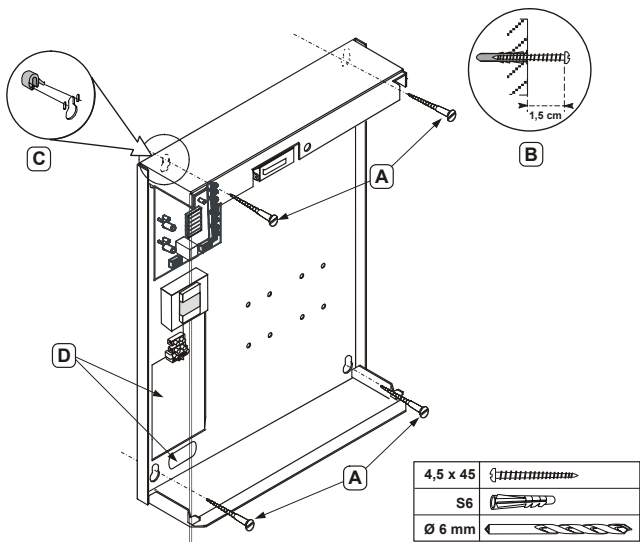

Fig. 3
1. Mark the drilling position for the four external mounting holes (A) Fig. 3.
3. Screw in the screws leaving approximately 1.5 cm proud (B) Fig. 3.
4. Snap the spacers in at the four mounting holes from the back in the intended slots (Fig. 3).
5. Route the connection cable through the cut-outs (D) in the back wall and hang the back on the screws .